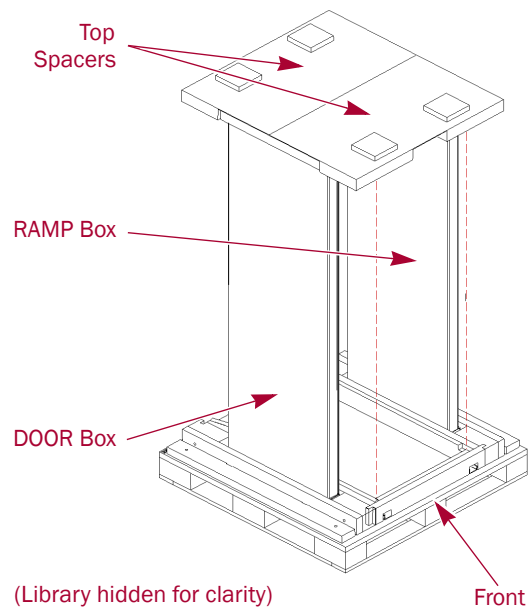

Figure 4. Ramp and Door Box Locations
3. Remove the **inner** packaging (Figure 4).
- a. Holding the RAMP and DOOR boxes, remove the two (2) **Top Spacers**.